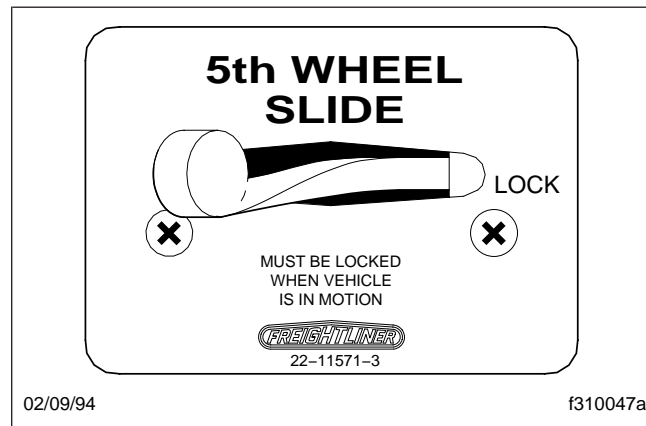

Fig. 10.8, Fifth Wheel Slide Control Switch
- 2.1 For air-operated models, set the cab-operated control switch (Fig. 10.8) to UNLOCK.